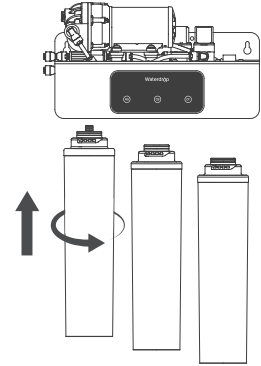

Figure 11
2. Take the filter corresponding to the position, insert it into the filter connector from bottom to top, and turn it counterclockwise to lock. (Figure 11)